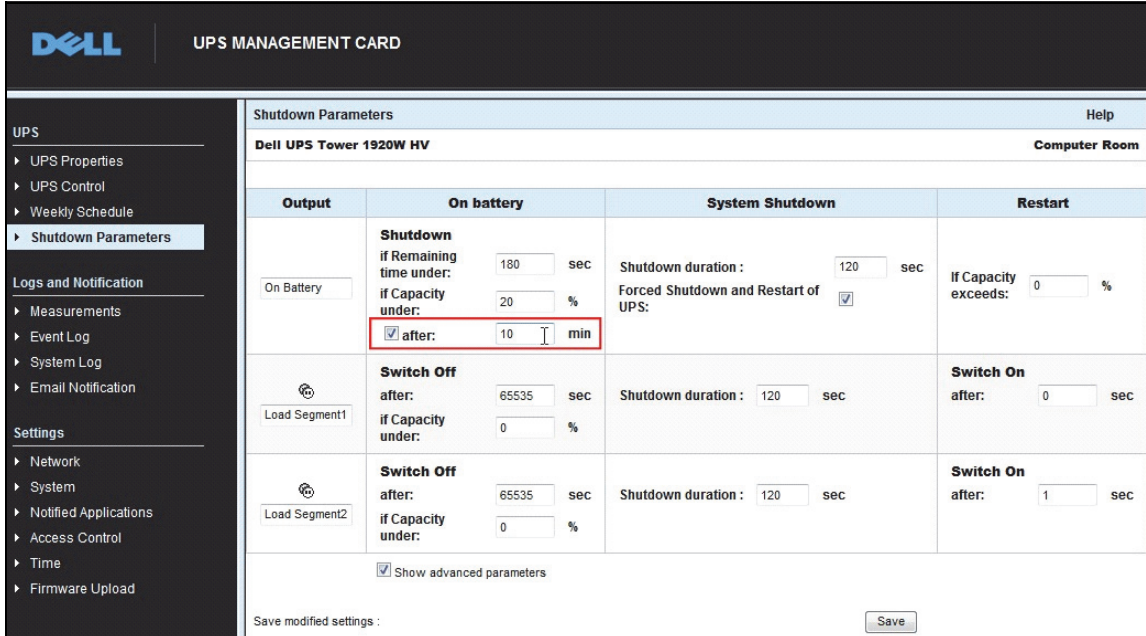

Figure 90. Dell Network Management Card Shutdown Parameters
- Figure 90 illustrates the Dell Network Management Card Shutdown configuration available from ***UPS > Shutdown Parameters***.